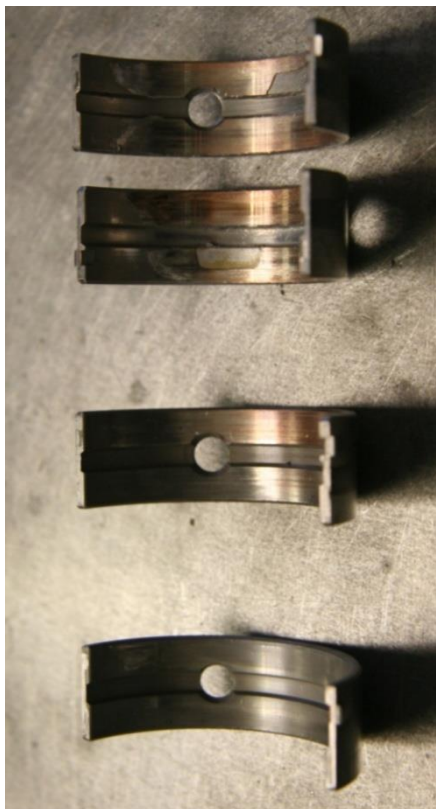

**Figure 73 – Removing Studs and Dowels from Crankcase**
- If the case is to be surfaced and line-bored then all dowels and studs must be removed from the crankcase. Use a collet type stud remover to unscrew the retained studs from the crankcase. Gentle application of heat will assist the removal as shown above. Extract the dowels from the lower stud holes – in Figure 73 an expanding puller is being used to pull the dowels out of the case. Clean the stud holes with an M10x1.5 tap (an old stud with grooves cut in the thread to act as a tap may also be used) and clean and dry the cases.